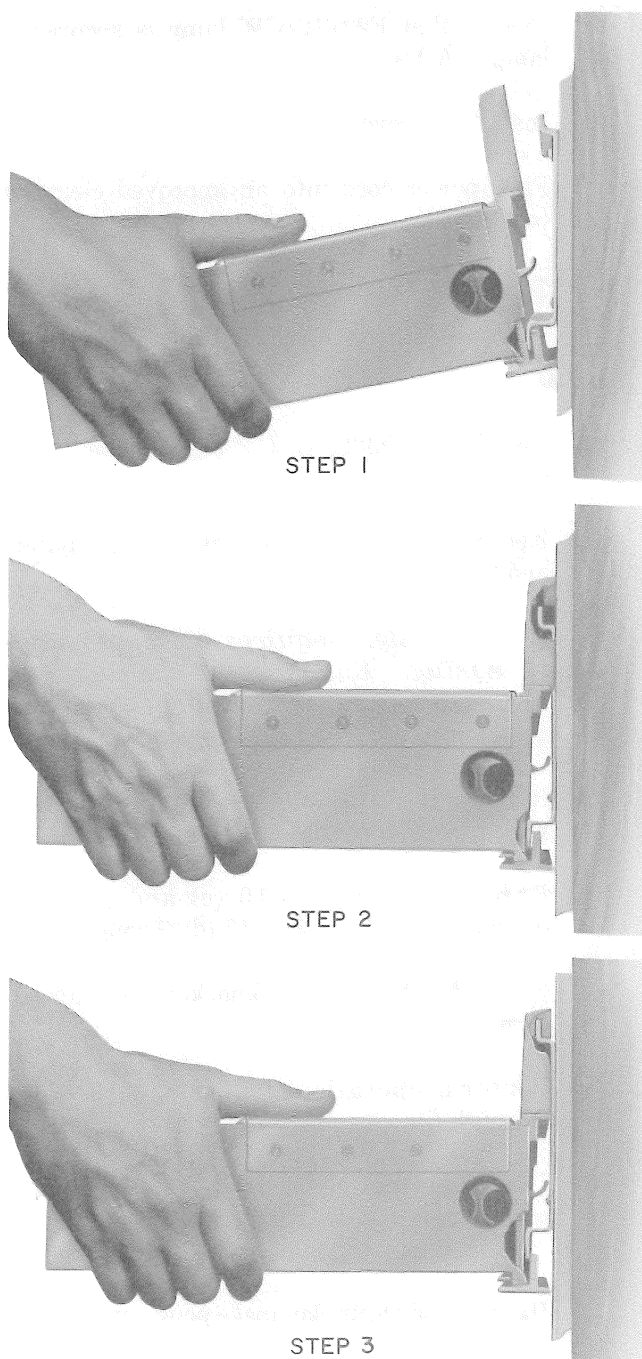

Fig. 14—Installation of KS-19322 Sign
- (c) Engage lower slot of sign with lower flange of backplate (Fig. 14, Step 1).
- (d) Raise sign assembly as far as possible and tilt top of sign toward wall (Fig. 14, Step 2).
- (e) Allow sign to slide down, engaging upper slot and flange (Fig. 14, Step 3).